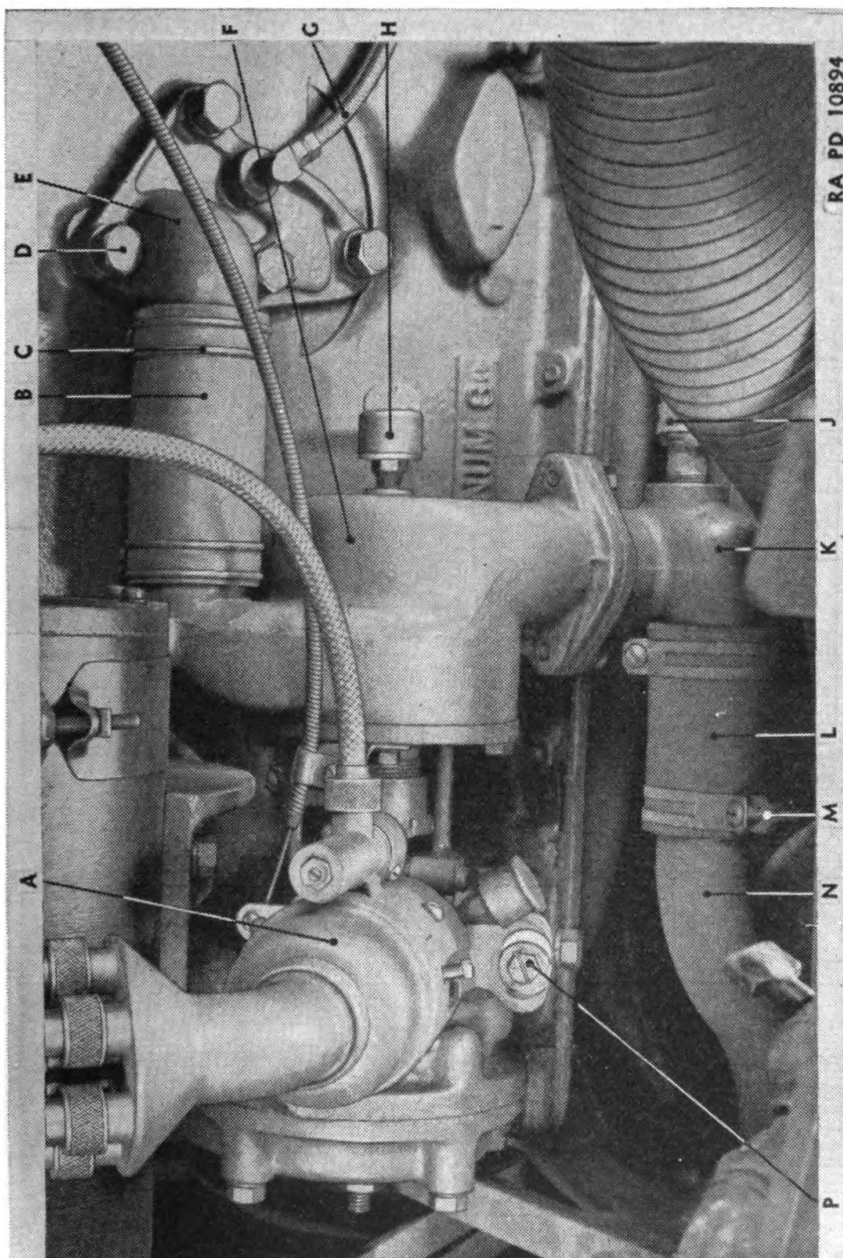

FIGURE 23.—Water pump assembly, installed.
20. Water pump.—a. Description (fig. 23).—The centrifugal type water pump is located at the left front of the engine block and is bolted on the rear of the timing gear case.